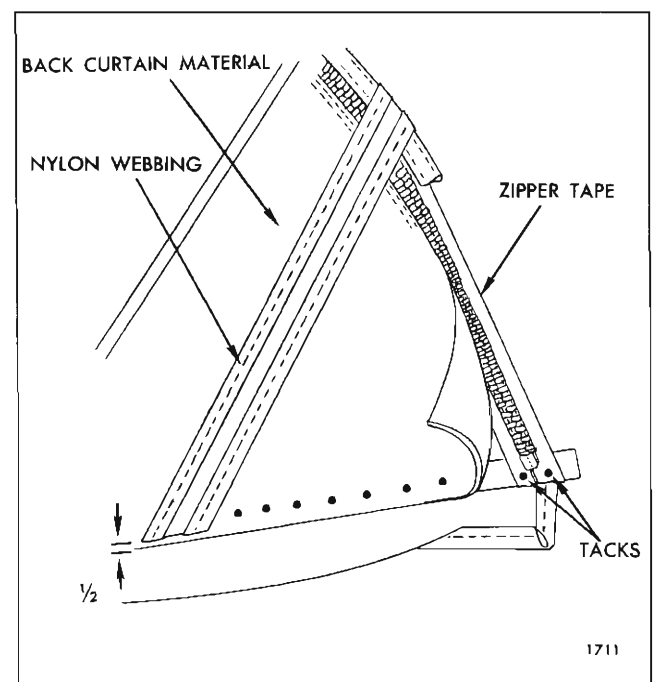

Fig. 2-I-13—Back Curtain Installation
14. Secure back curtain assembly with one tack to rear bow to prevent damage to plastic sheet (Fig. 2I15).